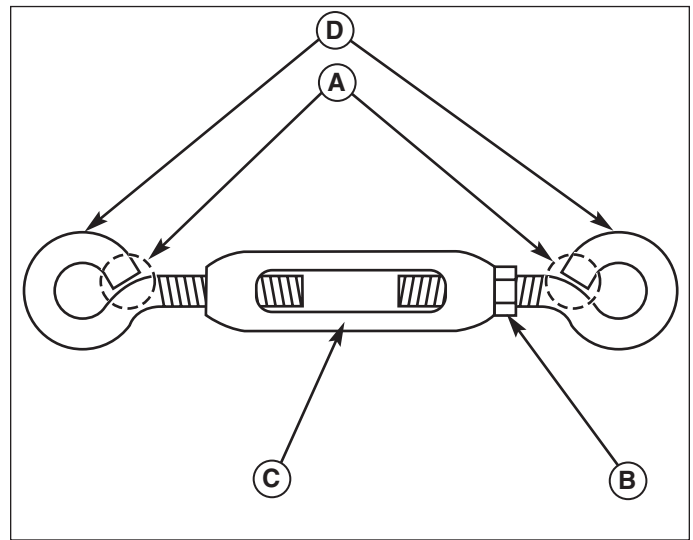
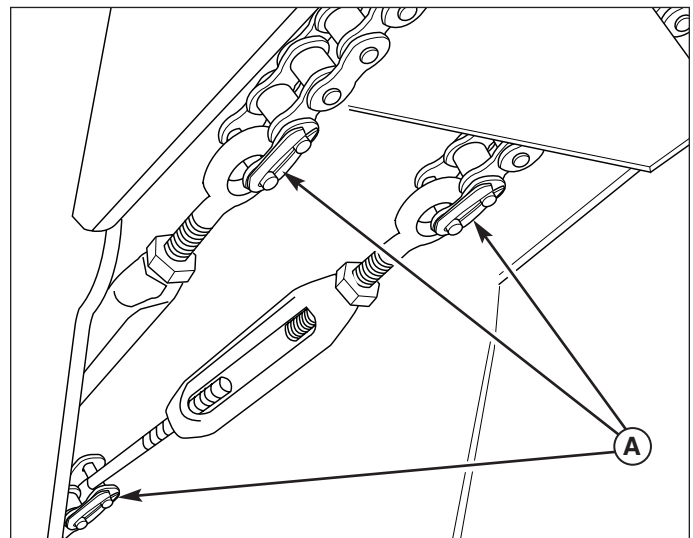

Figure 2. Inspecting the Steering Turnbuckle
Figure 3. Replacing the Steering Turnbuckle
3. Refer to Figure 2. Inspect the steering turnbuckles to see if the eyebolts have been welded. If the eyebolts are welded, no further action is required. If the eyebolts are not welded, order a quantity of two (2) of part number 5042090 and perform the corrective procedure detailed on the following page.
1. Loosen the jam nuts (B, Figure 2) that secure the steering chain turnbuckle.
2. Rotate the steering chain turnbuckle bodies (C) until the chain hangs slack underneath the machine.
3. Remove the four (4) # 40 chain link connectors (A, Figure 3) that connect to the steering chain turnbuckle to the steering chain. Remove the steering chain turnbuckle.
5. Install the new turnbuckles into the chain using the four (4) # 40 chain link connectors.
7. Tighten the jam nuts (B, Figure 2) tightly against the Steering Chain Turnbuckle Assembly (C).